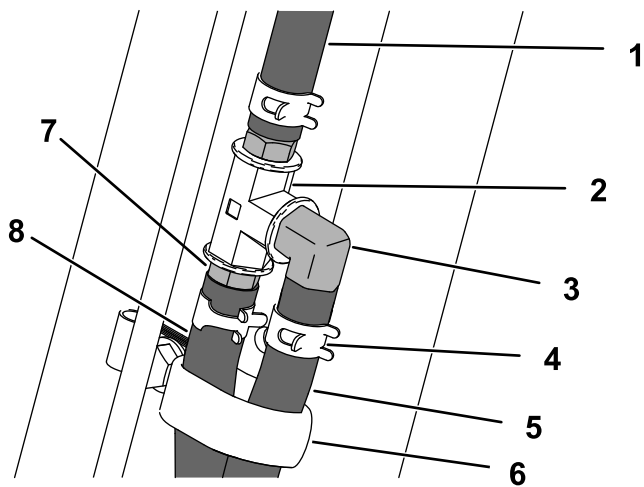

**Figure 9**
5. Connect the left hose (1/4 x 54-1/4 inches) to the front fitting using a hose clamp (1/2 inch) as shown in Figure 9.
6. Route the hose along the fuel-line bracket and along the rear of the heat shield (Figure 9).
8. Secure the hose to the brackets using 8 cable ties (3 on the fuel-line bracket and 5 on the heat shield) as shown in Figure 9.